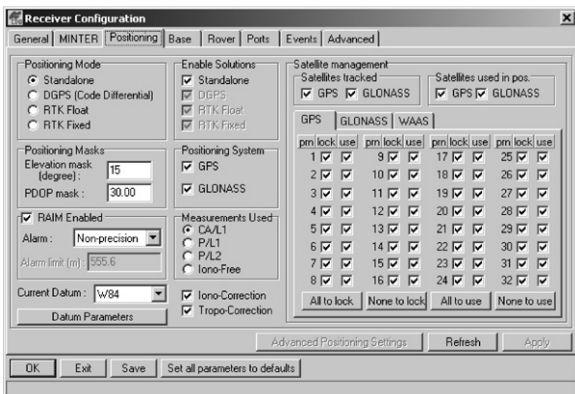

Figure 3-10. Receiver Configuration – Positioning
10. Select the **Positioning** tab and set the Position Masks, Elevation mask parameter to 15 (Figure 3-10).
4. Select the **Positioning** tab and set the Position Masks, Elevation mask (degrees) parameter to 15 (Figure 3-10 on page 3-18).